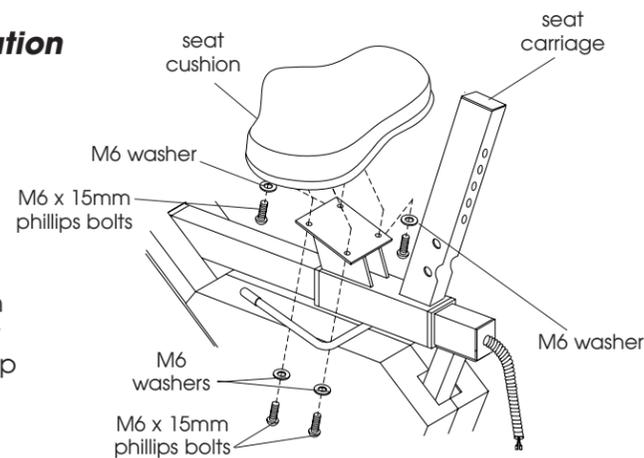

Figure 4a - Install Seat
- Position Seat Cushion over lower Seat Carriage with narrow side pointing forward and align bolt holes. Secure with (4) Phillips Bolts and (4) Washers from fastener pack and tighten, see Figure 4a.